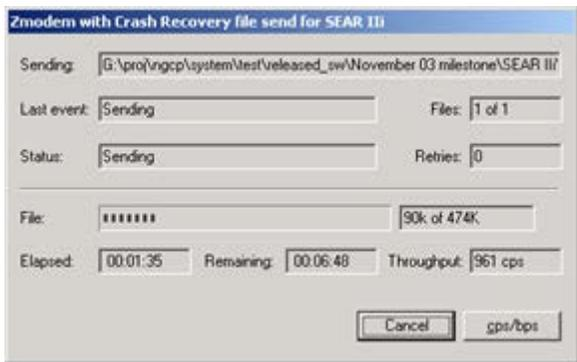
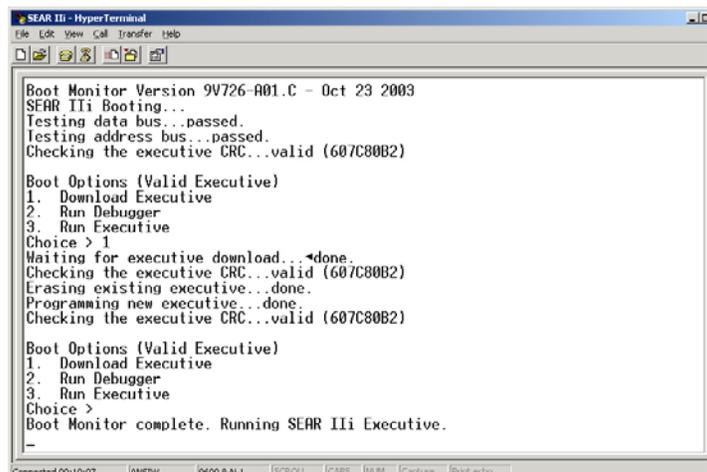

Figure 6-2: Zmodem Transfer Window
Figure 6-3: SEAR Ili Executive Software Download Screen (HyperTerminal)
Step 5	Using the terminal emulator Transfer command, initiate download of the new Executive binary file. A typical transfer window using the ZModem protocol is shown in Figure 6-2. After the Executive software is downloaded and stored in the SEAR flash memory, the boot options are again displayed. A typical HyperTerminal screen display is shown in Figure 6-3.